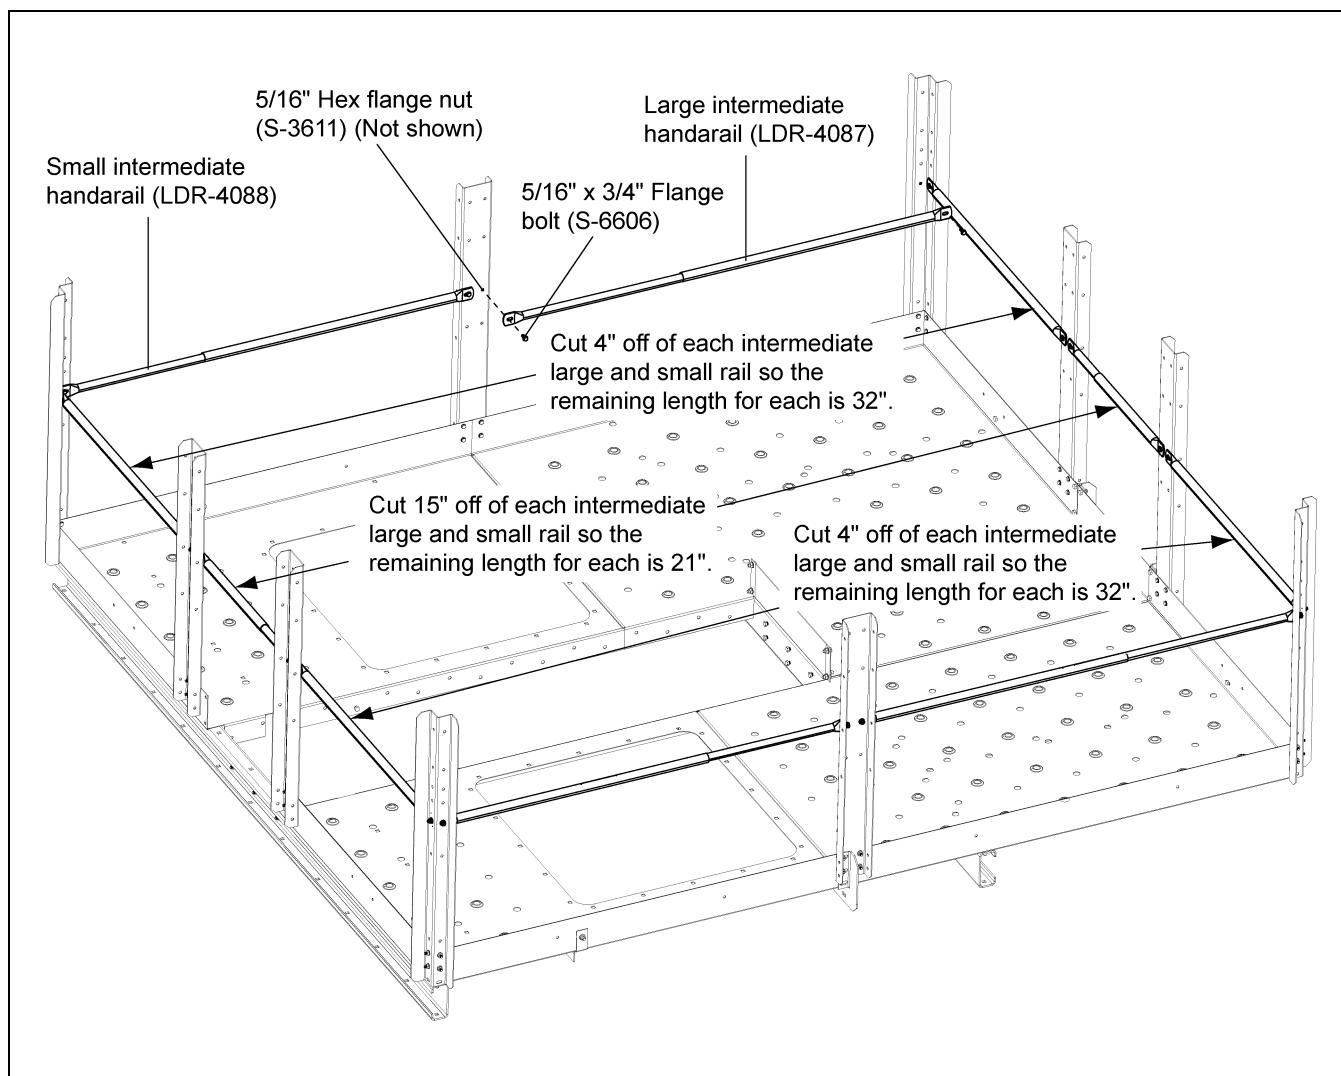

Figure 7R Intermediate Handrails
NOTE: The small intermediate handrail (LDR-4088) fits inside of the large intermediate handrail. It is critical that large and small rails be properly identified in advance. Rails are cut to size and cutting the wrong rail or to the wrong length will prevent proper installation. (See Figure 7R.)
- b. Insert one small rail inside of one large rail and telescope the joined rails from the "W" corner post to the platform post as shown in *Figure 7R on Page 56*.
- b. Insert one small rail inside of one large rail telescope the joined rails from the "W" corner posts to platform posts as shown in *Figure 7R on Page 56*.